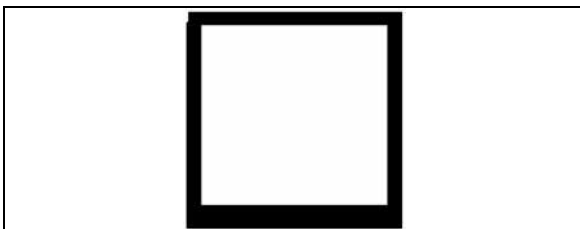

FIGURE 45 : SIDE PANEL INSTALLATION – SIKA 206 G+P APPLICATION
7. Apply Sika 206 G+P on side panel as shown in figure 45;